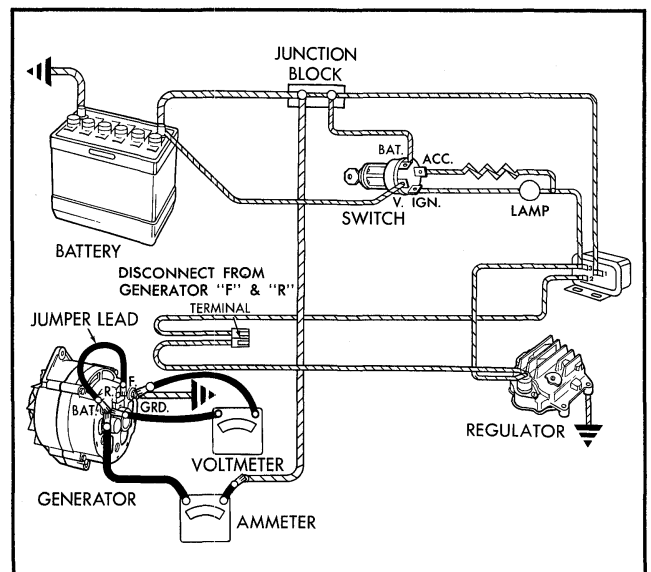

Fig. 11-47 Checking Circuit
1. Connect an ammeter in the circuit at the generator "BAT" terminal (Fig. 11-47).
2. Connect a voltmeter from "BAT" terminal of generator to ground (Fig. 11-47).
3. Disconnect the wiring harness connector from the generator "F" terminal (Fig. 11-47).
special adapter for making this connection is available from the wiring harness manufacturer.) (Fig. 11-47).